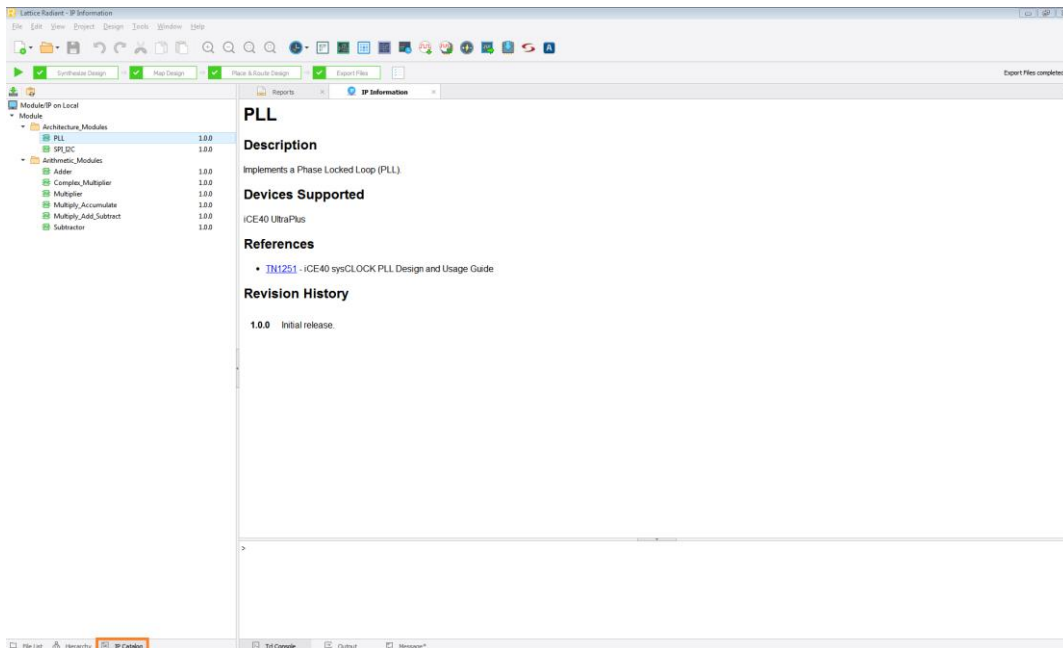

Figure 4.4. IP Catalog
- In IP Information, shown in Figure 4.4, click IP Catalog on the lower left corner of the window.